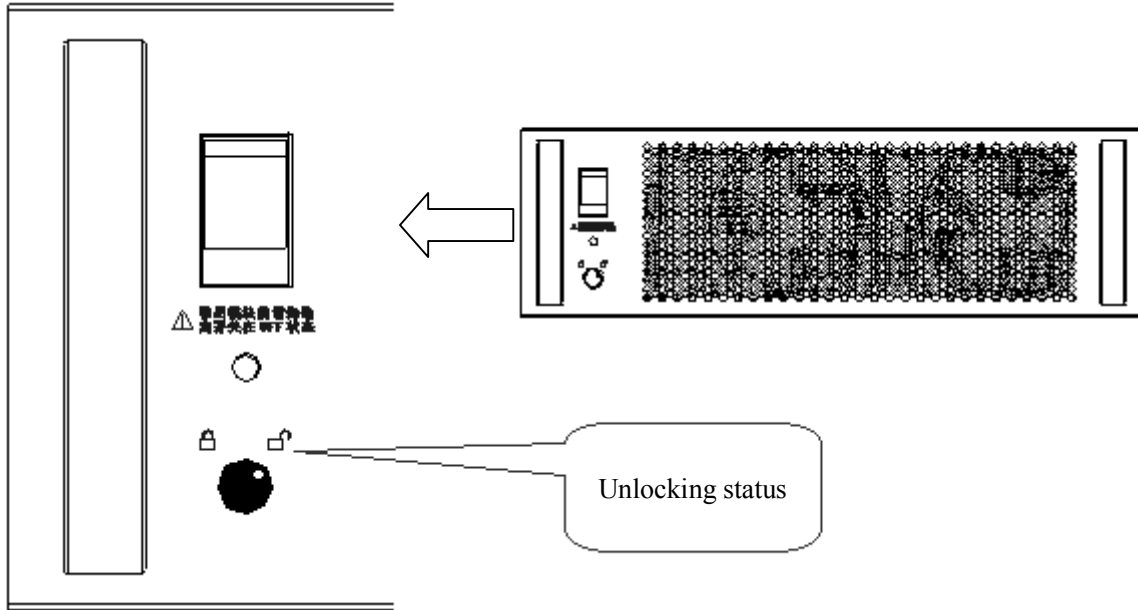

Fig. 5.1
2. Remove the packaging of the UPS module and check the status of the position lock located on the front panel of the module. In normal condition, the white dot on the position lock should be at the position of “☐” (Fig.5.1); if the white dot is at the position of “🔒”, please turn it to the “☐” position.